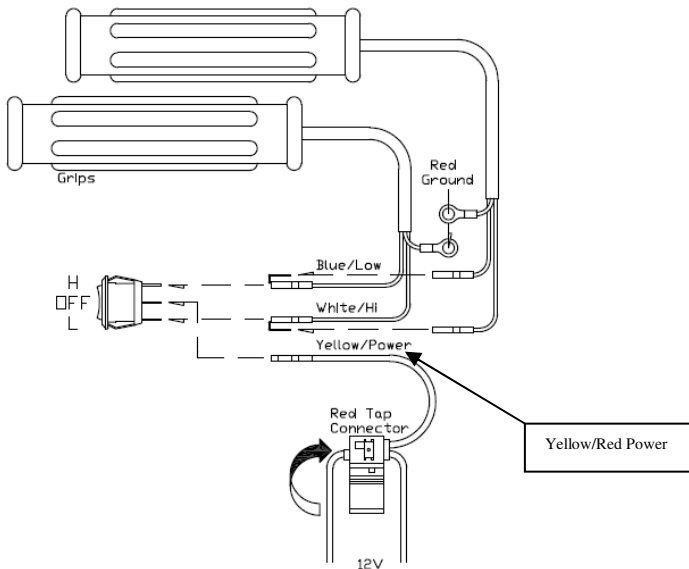

Figure 1. Connector guide & switch connections.
7. Locate a voltage controlled power wire (such as one leading to a headlight, taillight, or dash light). Using the red tap connector, place this power wire into the continuous channel. Insert the yellow/red wire (do not strip insulation) into the adjacent channel. Using pliers, press the metal contact flush with top of connector. Close the hinged cover until latched. See Figure 1 for connection to switch.
8. Connect wires to switch per Fig. 1 and press switch into switch hole. **The circuitry inside the switch is transposed.**